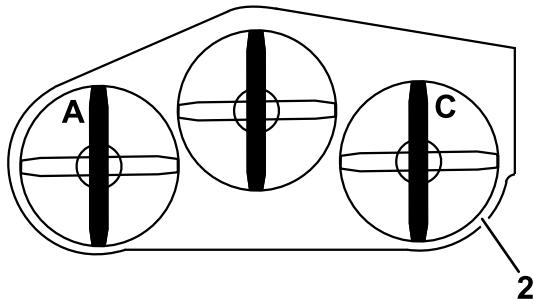

Figure 85
1. Position the left blade front-to-rear (Figure 85).
2. Measure the left blade at the **A** location, from a level surface to the cutting edge of the blade tip and record this measurement (Figure 85).
3. Position the right blade front-to-rear (Figure 85).
4. Measure the right blade at the **C** location, from a level surface to the cutting edge of the blade tip and record this measurement (Figure 85).
2. Position the left blade front-to-rear (Figure 85).
3. Measure the left blade at the **A** location, from a level surface to the cutting edge of the blade tip and record this measurement (Figure 85).
4. Position the right blade front-to-rear (Figure 85).
5. Measure the right blade at the **C** location, from a level surface to the cutting edge of the blade tip and record this measurement (Figure 85).